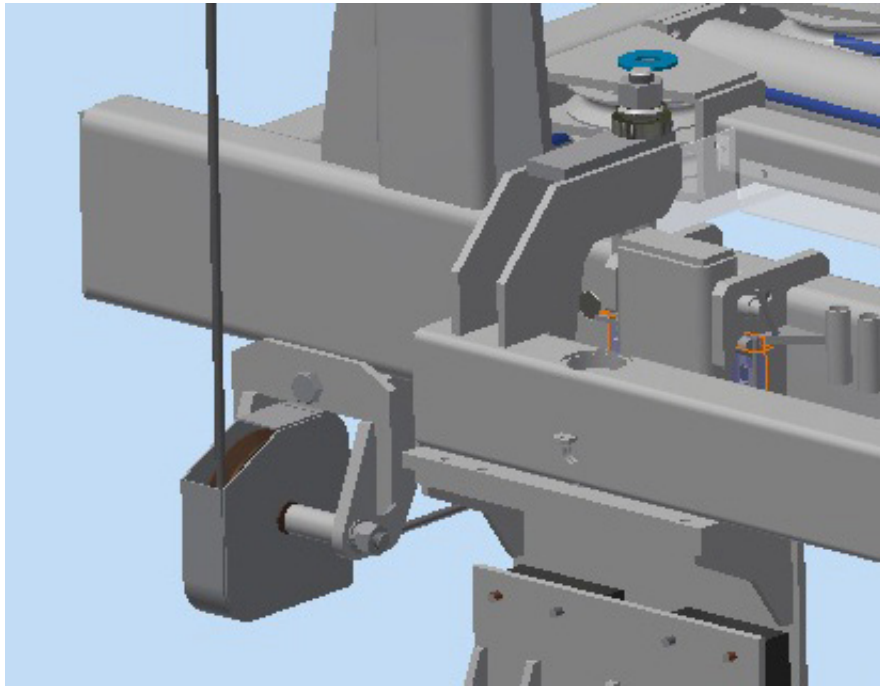

Figure 5.8-2 Aft Bootstrap Adapter
- 3) Assemble the engine bootstrap system per Engine Alliance procedures.(See Figure 5.8-2 and 5.8-3 for locations).